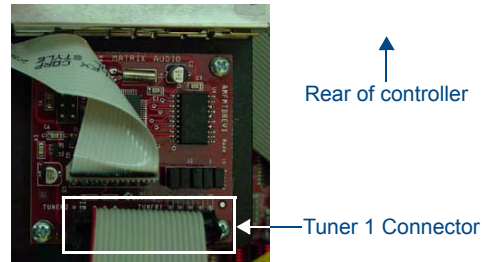

FIG. 3 Tuner 1 Module Connection
5. Connect the "Tuner 1" connector on the ribbon cable to the Tuner 1 module (FIG. 3).